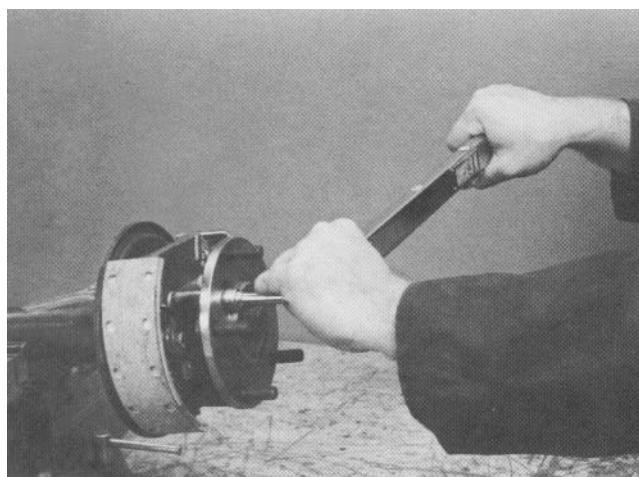

Figure 18
6. Install socket head screws, hardened washers and lock nuts. Tighten the nuts in an alternating pattern so the bearing is drawn into the axle housing evenly (Fig. 18). Torque the nuts from 16 to 20 ft-lb (22 to 27 N-m).